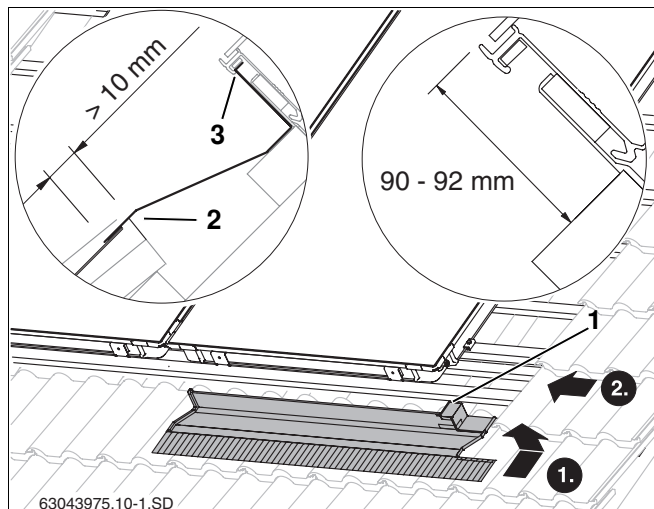

Fig. 42 Lower right facing collector
- Insert upper edge of the right-hand facing collector into the recessed channel on the collector (Fig. 42, **Item 3**).
- Push facing collector towards the collector so that the short edge on the right (Fig. 42, **Item 1**) grips up into the recessed channel on the collector.
The facing collector must overlap the pan tile by at least 10 mm (Fig. 42, **Item 2**).
- Lay the left-hand facing collector (Fig. 45, **Item 2**) on the previous one, and fit in the same way as the right-hand one (Fig. 42).